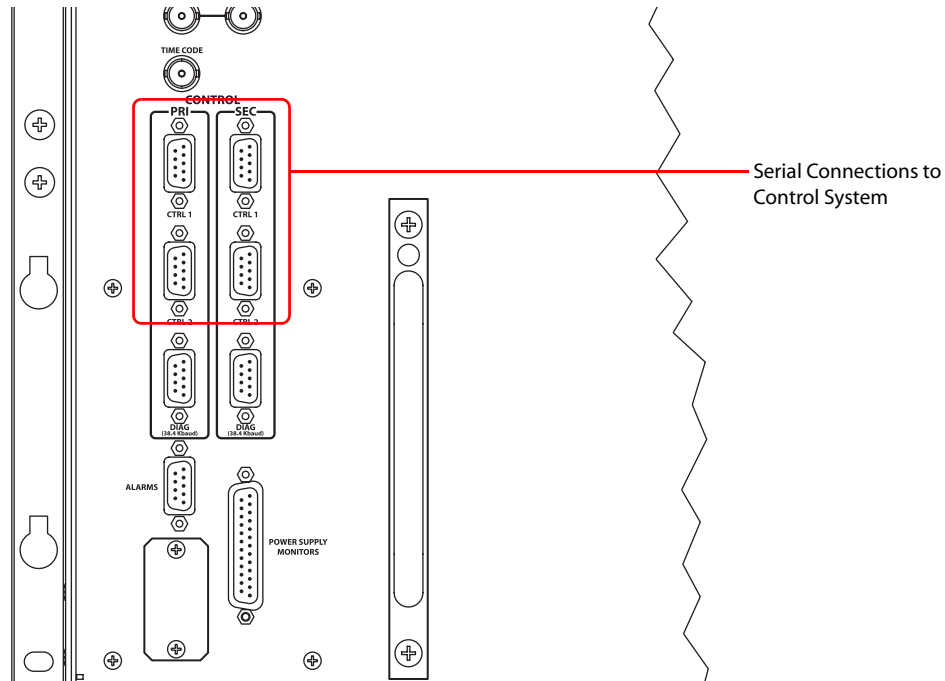

Figure 2-15. Serial Connections to Router Control System
- 1 Locate the serial control connections on the rear of the router, as shown in Figure 2-15. Serial control connections are labeled ‘PRI’ for the primary control card and ‘SEC’ for the secondary control card.